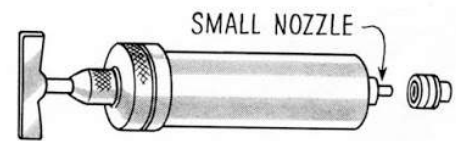

FIG. 94—Greasing agitator or brush roll bearing
3. Put in new Hoover soft cup grease. The best way is with the special grease gun (Tool No. 146) as shown in Figure 94. Use small nozzle.